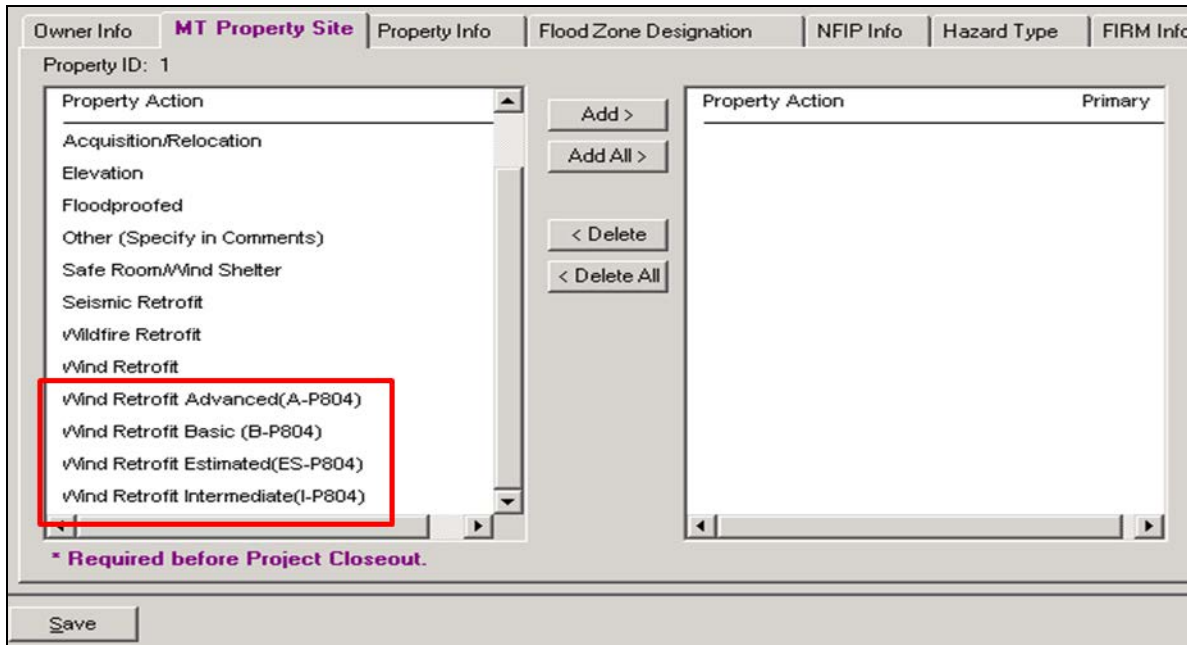

Figure 6-29: Wind retrofit property site actions
- ii. The property site inventory will require the selection of one of the four wind retrofit property site actions (Figure 6-29).